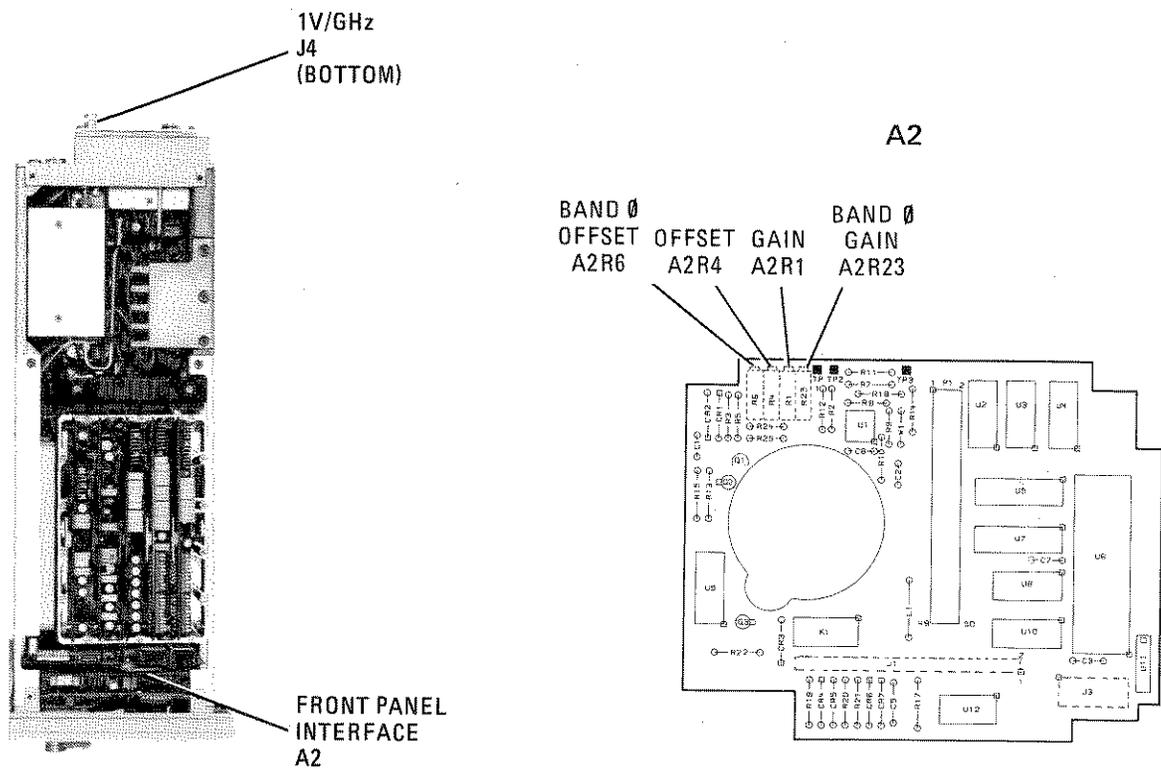

Figure 5-28. Frequency Reference Adjustment Locations
2. Adjust A2R4 (OFFSET) to the center of its mechanical range. Refer to Figure 5-28 for the adjustment location.